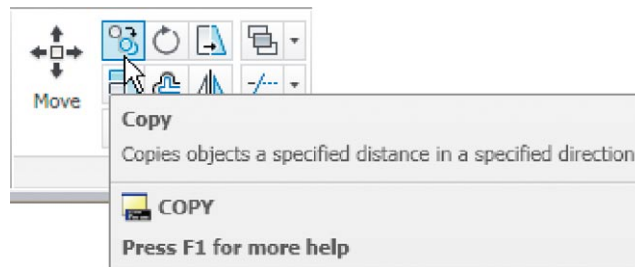

Fig. 5.4 The **Copy** tool from the **Home/Modify** panel
2. Call the **Copy** tool – either *left-click* on its tool icon in the **Home/Modify** panel (Fig. 5.4) or *enter* **cp** or **copy** at the command line. The command line shows: